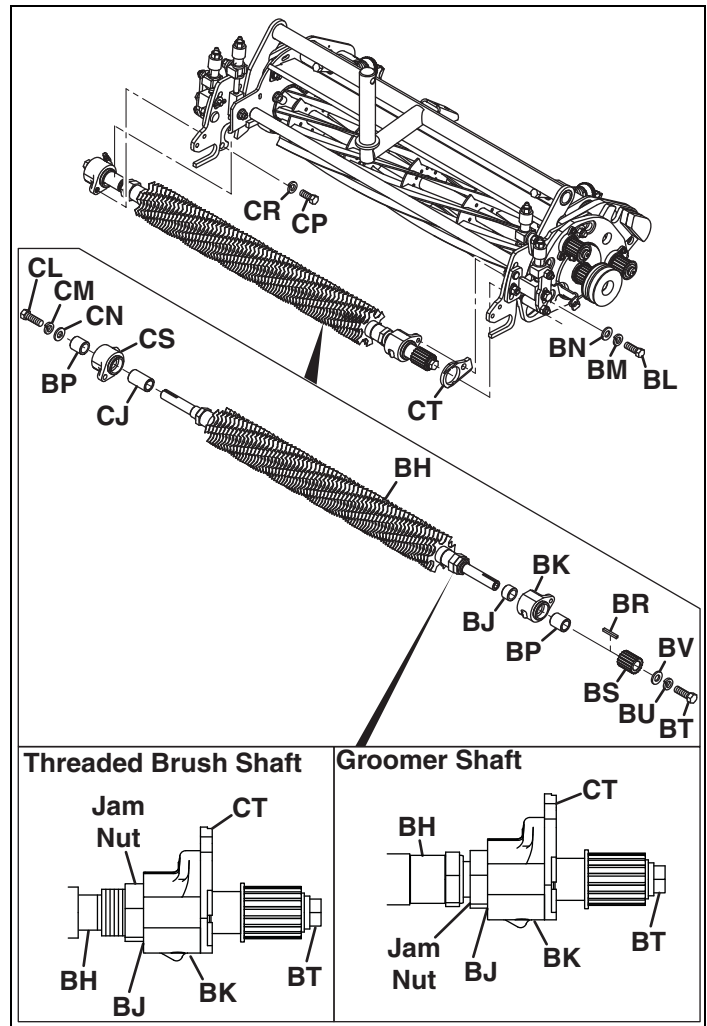

Figure 9
22. Slide 7/8 x 17/32" spacer (BJ) onto shaft assembly (BH). See Figure 9.
23. Slide shaft assembly (BH) through bearing housing (BK), 7/8 x 1-1/32" spacer (BP). See Figure 9.
24. Insert 1/8" square x 3/4" key (BR) into slot in shaft assembly (BH). Leave approximately 1/8 in. (3 mm) of the key protruding from the end of the shaft. See Figure 9.
25. Apply small amount of anti-seize compound and slide 18 tooth sprocket (BS) onto shaft assembly (BH). Loosely assemble 3/8-24 x 1-1/4" hex head screw (BT), lockwasher (BU) and flat washer (BV). Hardware will be tightened after bearing housing is adjusted. See Figure 9.
26. Slide 7/8 x 1-15/32 spacer (CJ) onto opposite end of shaft assembly (BH). See Figure 9.
27. Slide bearing housing assembly (CS) onto shaft assembly (BH). See Figure 9.
28. Slide 7/8 x 31/32" spacer (BP) onto shaft assembly (BH). Secure with 3/8-24 x 1" hex head screw (CL), lockwasher (CM) and flat washer (CN). See Figure 9.
29. Slide shaft assembly (BH) through plate (CT) and into the opening in drive side assembly. Lift opposite end of shaft into driven side. See Figure 9.
30. Secure bearing housing to driven side assembly using 5/16-18 x 1" hex head screw (CP) and lockwasher (CR). See Figure 9.
31. Secure bearing housing (BK) to drive side assembly using 5/16-18 x 1-1/4" hex head screw (BL), lockwasher (BM) and flat washer (BN).
32. Hand tighten jam nut on the shaft assembly (BH) against spacer (BJ) to remove any play in the groomer shaft. Securely tighten screw (BT).
33. Loosen hardware (BL) and make certain shaft assembly moves freely in the belt adjustment slot.
4. Apply small amount of anti-seize compound and slide 18 tooth sprocket (G) onto shaft assembly (B). Loosely assemble 3/8-24 x 1-1/4" hex head screw (H), lockwasher (J) and flat washer (K).
5. Slide 7/8 x 1-15/32 spacer (L) onto the other end of shaft assembly (B).
6. Slide bearing housing assembly (M) onto shaft assembly (B).
7. Slide 7/8 x 31/32" spacer (E) onto shaft assembly (B). Secure with 3/8-24 x 1" hex head screw (P), lockwasher (R) and flat washer (S).
- a. If the optional guide wheel kit is installed, remove hardware (T) and guide wheels (U).
- b. Remove outer nuts (V), and washers (W).
- c. Remove hardware (X) and slide existing roller out of brush/groomer assembly.
9. Remove belt cover (AA).
11. Slide shaft assembly (B) through plate (D) and into the opening in drive side assembly. Lift opposite end of shaft into driven side. Secure driven side of shaft assembly using hardware (Z) first, the drive side using hardware (Y). **See Figure 9.**
12. Hand tighten jam nut on the shaft assembly (B) against spacer (A) to remove any play in the groomer shaft. Securely tighten screw (K).
14. Tension the belt using a multi purpose belt tensioner. Belt tension should be 20-25 lb. (89-111 N) when measured at point "X". Assemble and torque hardware (Y) to 16-19 ft. lb. (22-25 Nm) to set the adjustment.
- a. Remove roller plates (AB) from old roller and assemble onto new roller.
- b. Slide roller into brush/groomer assembly. Refer to **Figure 9** and assemble hardware (X).
- c. Assemble washers (W) and outer nuts (V).
- d. If the optional guide wheel kit is used, assemble guide wheels (U) and hardware (T).